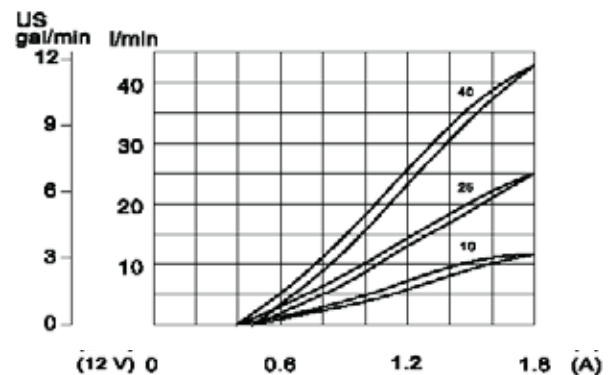

Figure 2
**I-Min or Minimum PWM** is the minimum control current induced into the control valve. This is typically set to the point where the control signal creates a response from the valve spool. For Ace Pumps, this is typically set to the point when our pump starts to turn or where a minimum application pressure is achieved. This eliminates the **Deadband** which is typical for all control valves (see Figure 2).